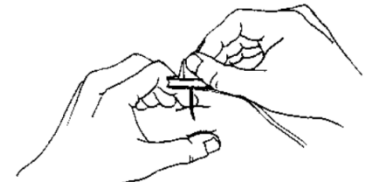

Figure 5: Inserting the Huber needle¹⁴
26. Stabilise port with non-dominant hand and insert needle as close as possible to the centre and at a 90 degree angle to the port. Advance the needle until back of port is felt (Figure 5).